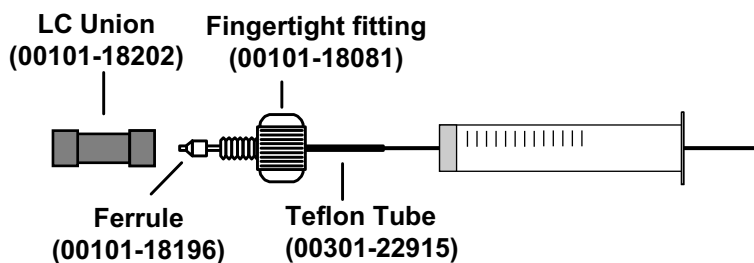

Figure 7-2. Syringe and syringe adapter assembly
- c. Remove the tip of the syringe needle from the end of the Teflon tube on the syringe adapter assembly. See Figure 7-2.
5. While holding the plunger of the syringe in place, carefully reinsert the tip of the syringe needle into the end of the Teflon tube on the syringe adapter assembly. (Figure 7-2)